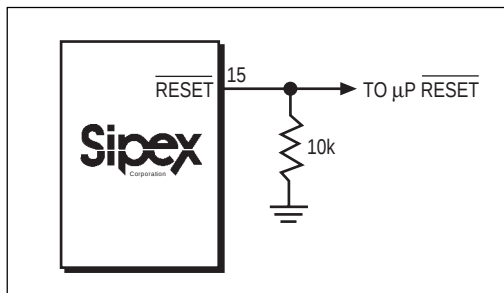

Figure 4. Adding an external pull-down resistor ensures RESET is valid with VCC down to GND.
1.6mA at $V_{OUT} = 0.5V$. When no backup battery is used, $\overline{RESET}$ output is valid down to $V_{CC} = 1V$, and an external 10k Ω pull-down resistor on $\overline{RESET}$ ensures that $\overline{RESET}$ will be valid with V_{CC} down to GND as shown on *Figure 4*. As V_{CC} goes below 1V, the gate drive to the $\overline{RESET}$ output switch reduces accordingly, increasing the $r_{DS(ON)}$ and the saturation voltage. The 10k Ω pull-down resistor ensures the parallel combination of switch and external resistor is 10k Ω and the output saturation voltage is below 0.4V, while sinking 40 μA . When using a 10k Ω external pull-down resistor, the high state for the $\overline{RESET}$ output with $V_{CC} = 4.75V$ is 4.5V typical. For battery voltages greater than or equal to 2V, $\overline{RESET}$ remains valid for V_{CC} between 0V and 5.5V. $\overline{RESET}$ will be asserted during the following conditions: